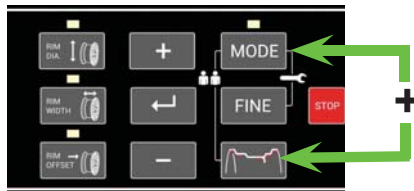

Figure 31a
- Press the “MODE” and the “Weight Placement” keys simultaneously for 3 seconds. See Figure 31a.